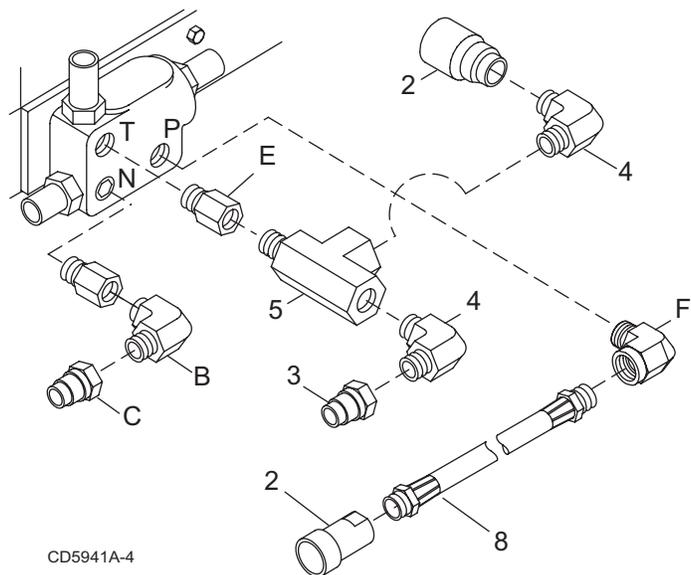

Figure 15. Hydraulic Fitting Installation
1. Rotate elbow (B) and male quick coupler (C) in the PBX port (N) to point to the rear. See Figure 15.
2. Attach tee (5) to adapter (E) and point center port to the front.
3. Attach elbow (4) and male quick coupler (3) to the end of tee (5). Point elbow and quick coupler to the rear.
4. Attach elbow (4) and female quick coupler (2) to the center port of tee (5). Point quick coupler upward.
5. Rotate elbow (F) in the PRESSURE port (P) to point to the rear.
6. Attach female quick coupler (2) to hose (8). Attach hose (8) to elbow (F).